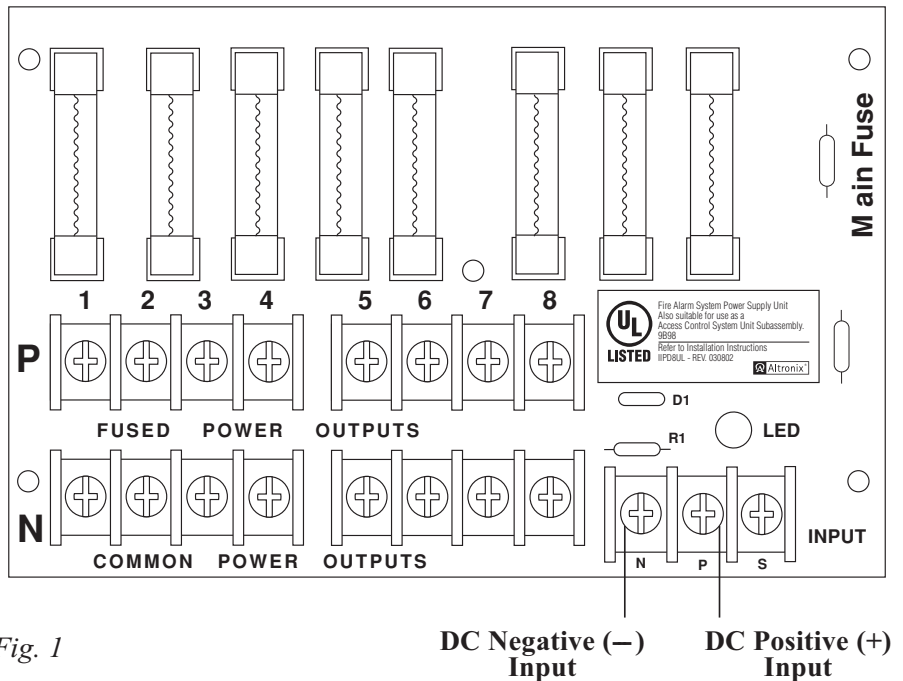

Fig. 1
2. Connect the desired power supply output to the terminals marked [INPUT] (Fig. 1).
Note: If using DC voltage, left terminal is NEG. (-) and right terminal is POS. (+) (Fig. 1).